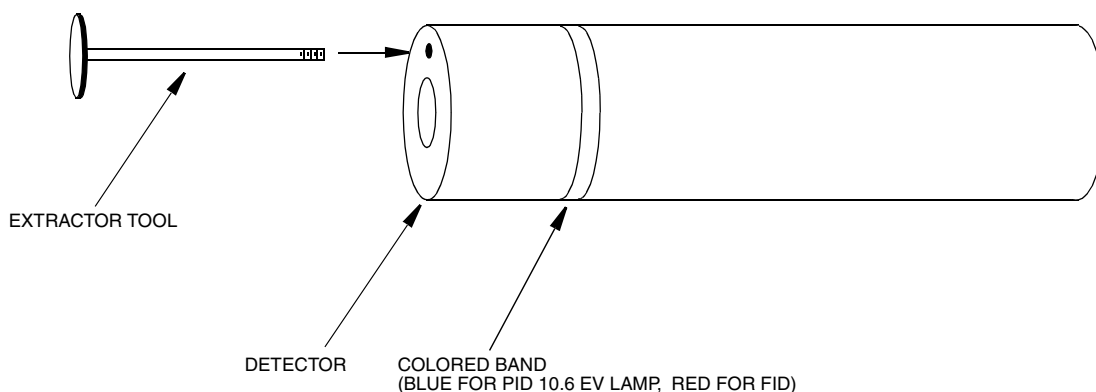

Figure 10. PID Lamp Cleaning Kit
3. Screw the special extractor tool provided with the accessory kit into the off-center hole in the cartridge. (Do not exceed three full turns. Refer to Figure 10.)
3. Screw the special extractor tool provided with the accessory kit into the off-center hole in the cartridge (see Figure 10).